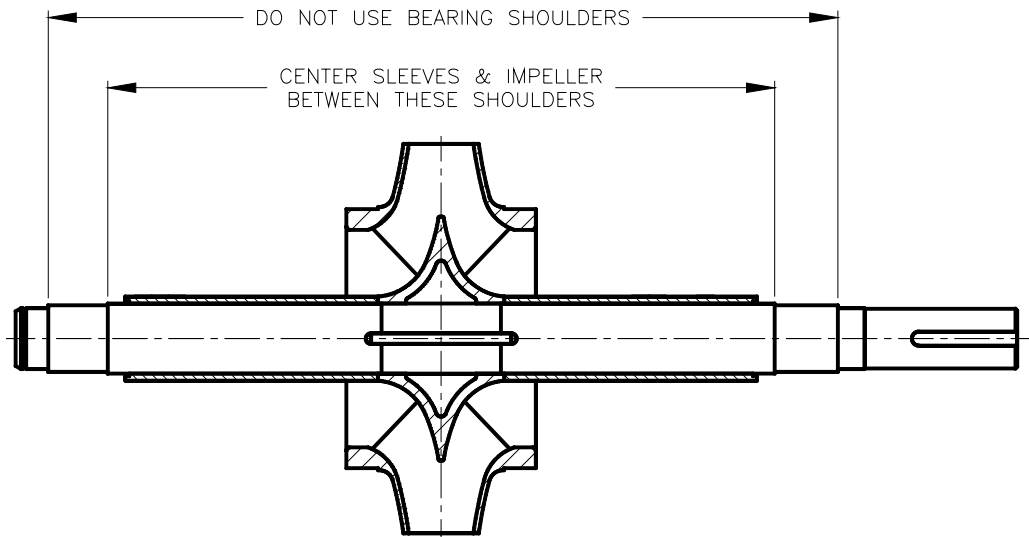

FIGURE 5
- C. Install the impeller key (102) in the shaft (4) and slide the impeller (1) over the key, centering it between the shaft shoulders as shown in Figure 5.
Install the impeller key in the shaft and coat the impeller area on the shaft with Loctite 601. Press the impeller onto the shaft, centering it between the shoulders as shown in Figure 5.
CAUTION: THE LINEAR POSITION OF THE IMPELLER MUST BE OBTAINED AND THE SHAFT SLEEVES MUST BE PROPERLY LOCATED. REFER TO FIGURE 5 ON THE PREVIOUS PAGE OF THIS MANUAL. IF PROVIDED, THE SHAFT SLEEVE MUST BE TIGHTENED WITHIN 10 MINUTES AFTER THE LOCTITE IS APPLIED. TO ACCOMPLISH LINEAR POSITIONING OF THE IMPELLER, LEAVE AN EQUAL AMOUNT OF SHAFT OR SHAFT THREADS EXPOSED ON EACH END OF THE SHAFT AFTER ASSEMBLY IS COMPLETED. ALLOW 4 HOURS FOR THE LOCTITE TO CURE BEFORE COMPLETING THE PUMP ASSEMBLY.